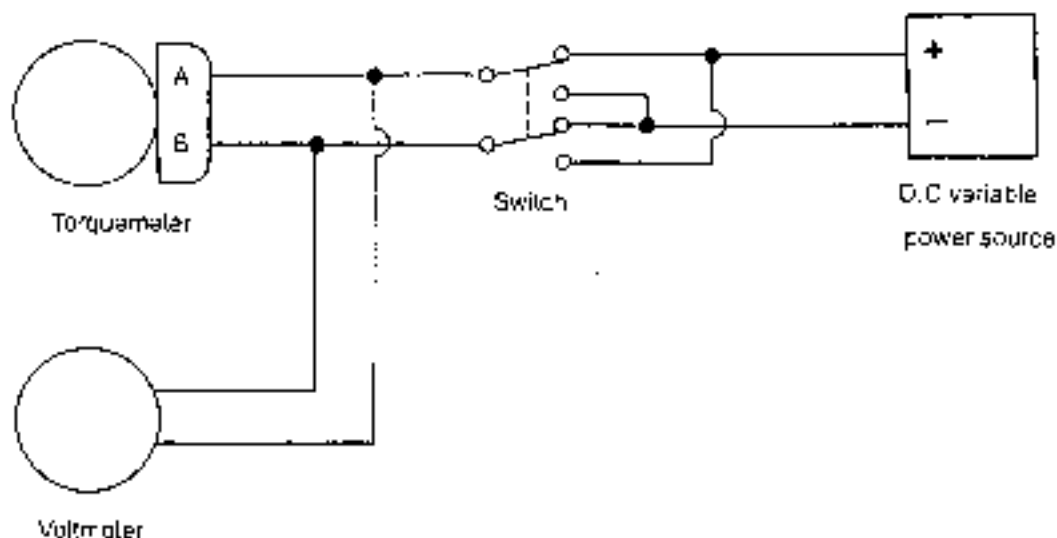

Fig 10-16A Test setup for torque meter inspection
- (1) Check for errors in torque indicator.
- (a) Connect the indicator as shown in Fig 10-16A. Note that torque meters (PN 935A-5001) are connected directly to a variable DC power source.